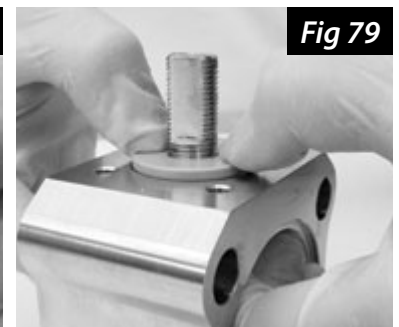

Fig 79
4. Place the upper PEEK stem bearing over the top of the stem. While holding the bottom of the stem, firmly press down on the upper PEEK bearing until it is fully seated (Fig 79).